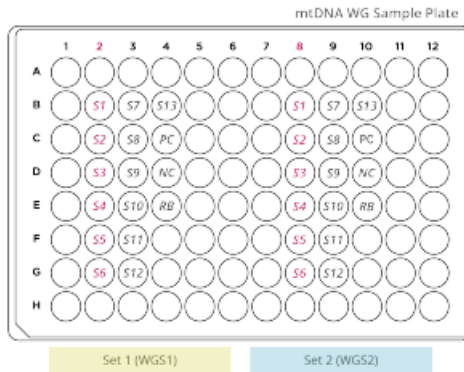

Figure 4. Example plate setup for 16 samples. Only 4 full columns, 2 for each set of primer mix, will be used by 16 samples.
- a. Divide the plate into 2 even sections depending on the number of samples. See Figure 4 for an example.